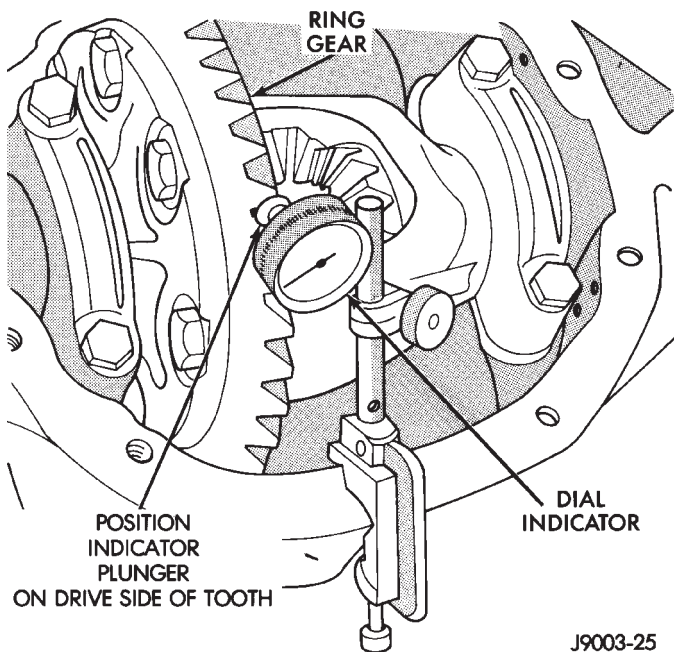

Fig. 30 Ring Gear Backlash Measurement
(2) Install Dial Indicator (Fig. 30). Position the plunger against the drive side of a ring gear tooth. Measure the backlash at 4 positions (90 degrees apart) around the ring gear. Locate and mark the area of minimum backlash.
(3) Rotate the ring gear to the position of the least backlash. Mark the gear so that all future backlash measurements will be taken with the same gear teeth meshed.